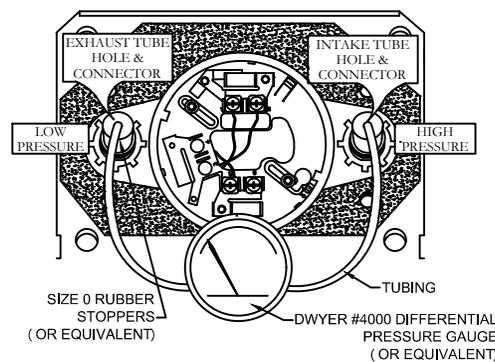

FIGURE 5. AIR SAMPLING VERIFICATION
To verify proper sampling of air, use a Dwyer Model 4000 differential pressure gauge (or equivalent). See Figure 5 for gauge connections (SOC-24DH detector not shown). The pressure differential between input sampling tube and exhaust tube should be greater than 0.01" of water and less than 1.2" of water. Return cover and tighten captive screws. Ensure the catch is engaged by pushing from the outside. There should be a solid green pilot indication. Indication is independent of seal integrity.
Testing can be accomplished with the cover installed or removed. Place the magnet (HA Part #0700-01117 or suitable bar magnet) on the detector as shown in Figure 4 / Figure 5 for approximately six (6) seconds to activate the alarm LEDs and relays. This test will verify that the detector is within its intended limits.